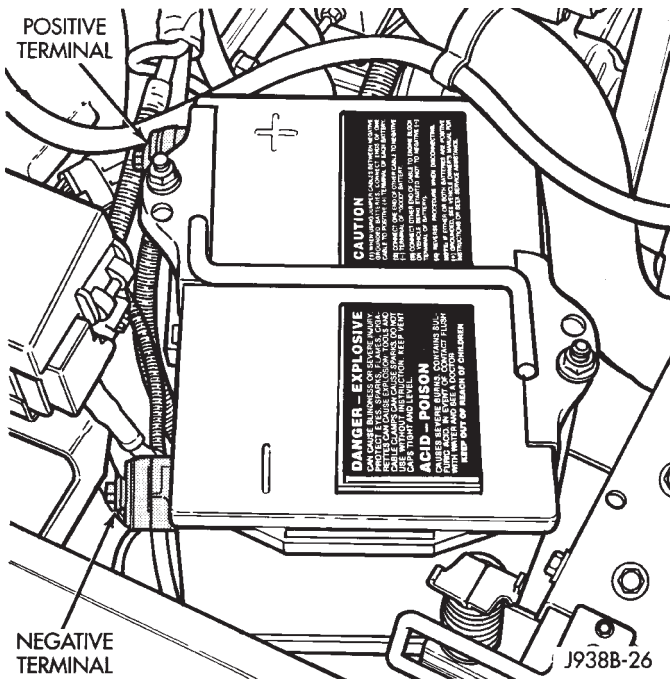

Fig. 6 Battery Cable Attachment
- (1) Make sure ignition switch is in OFF position and all electrical accessories are OFF.
(2) Remove bolt and negative cable from battery (Fig. 6).
(1) Refer to Specifications to determine if battery has correct classification and rating for the vehicle.
(2) Use a hydrometer to test the battery electrolyte. Charge battery if necessary.
(3) Position battery in tray. Ensure that positive and negative terminals are correctly located. The cables must reach their terminals without stretching (Fig. 6).
(4) Ensure that battery base is positioned in tray properly before tightening holddown.